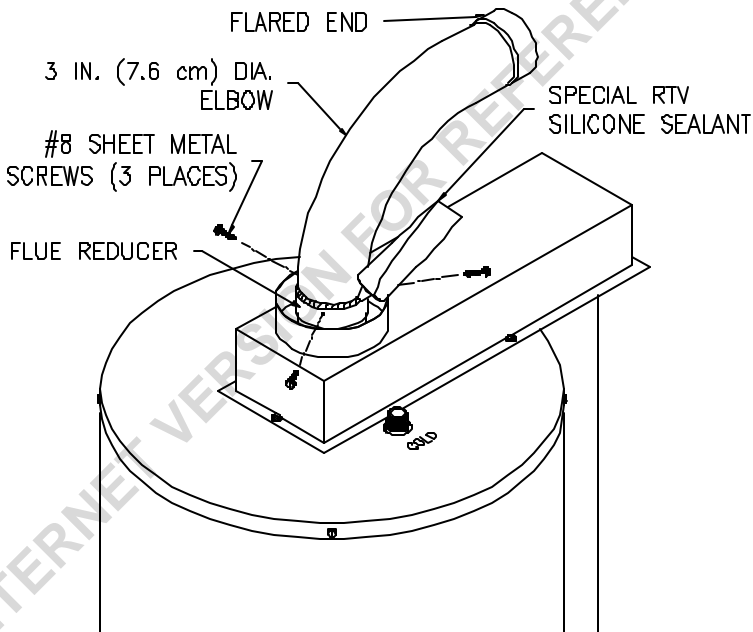

Figure 8
5. Insert the straight end of the three (3) inch (7.6 cm) diameter elbow into the flue reducer until firmly seated and oriented in the correct direction. With a 1/8 inch diameter drill bit (not supplied), drill three (3) holes, 120° apart, through the flue reducer into the three (3) inch (7.6 cm) diameter elbow. Fasten with three (3) #8 sheet metal screws (supplied). Using the supplied special RTV silicone sealant, apply a sufficient amount to seal the joint (See Figure 8).